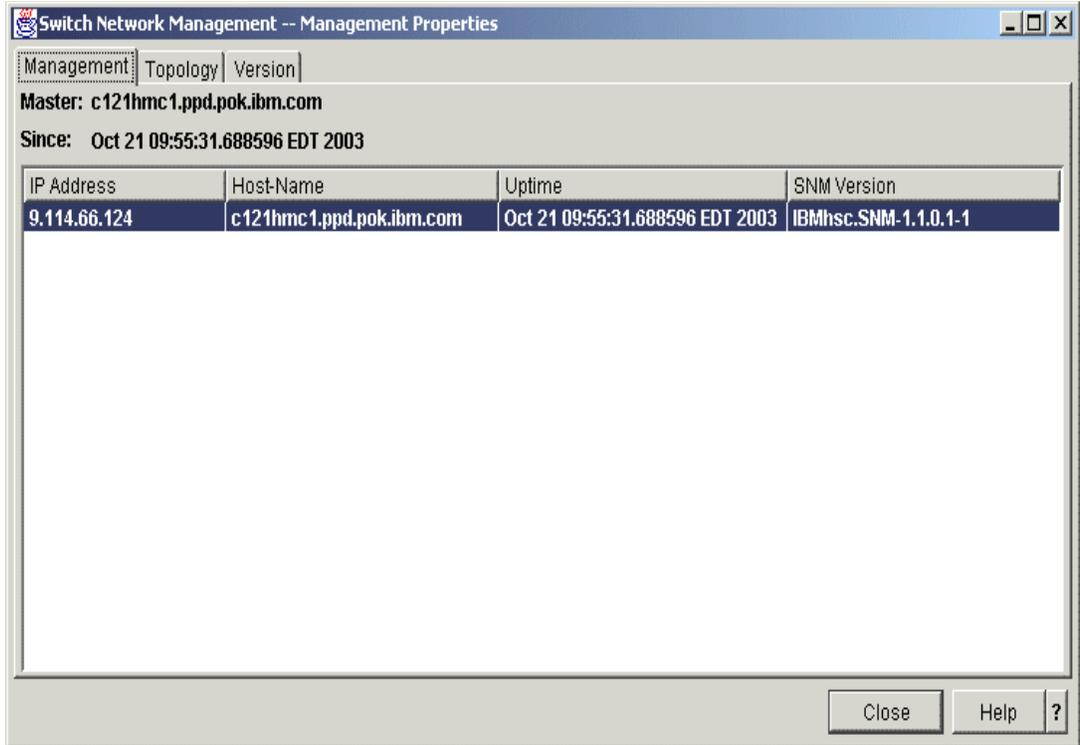
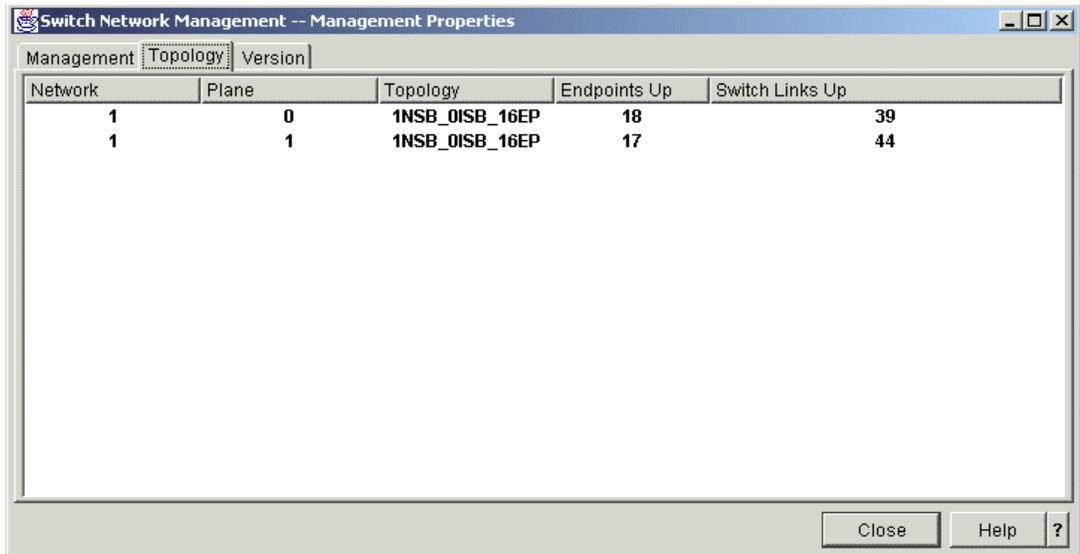
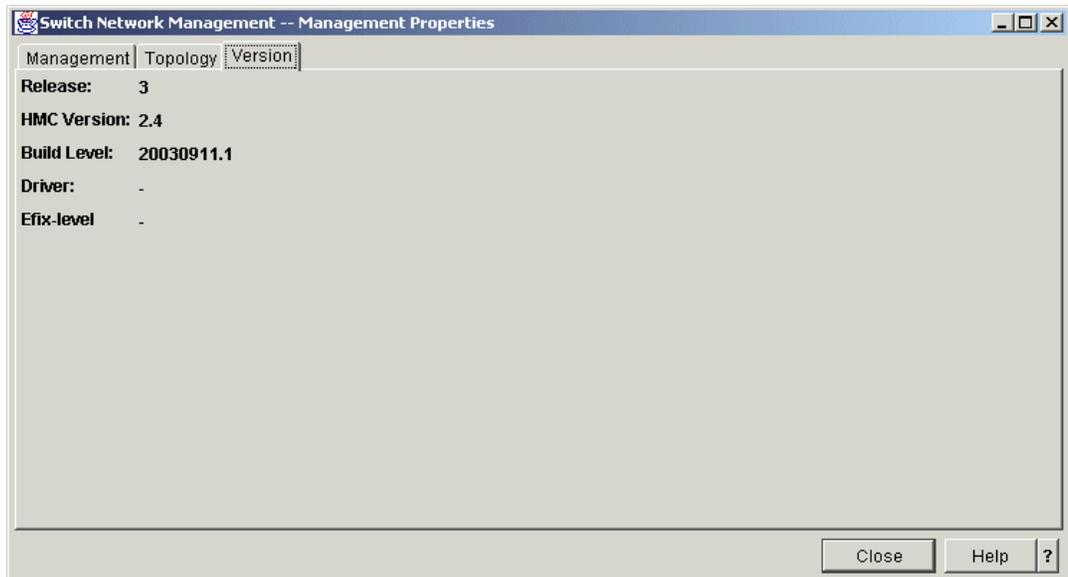

Figure 22 Switch Management Proprieties: Management view
Figure 23 Switch Management Proprieties: Topology view
Figure 24 Switch Management Proprieties: Version View
- **1sswmanprop** - This command displays the SNM properties, as shown in Figure 22, Figure 23, and Figure 24 on page 42.
Figure 22 shows the Management view.
Figure 23 shows the Topology view.
Figure 24 on page 42 shows the Version view.